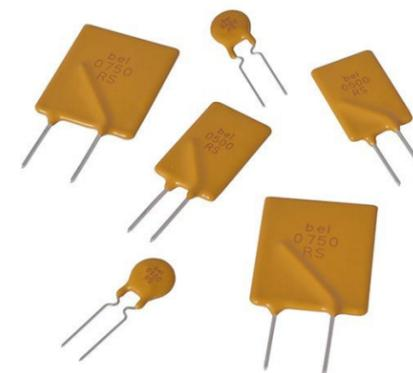

Figure 2: The OZRS radial-leaded PPTCs are rated for 32 volts DC and up to 10A. *Image source: Bel Fuse*
- OZRS radial leaded PPTCs are rated from 500mA to 10A with a maximum voltage of 32 VDC, and typical power ratings from 0.9 to 7.0W (Figure 2). For example, the OZRS0100FF1E has a trip current of 1.9A, a hold current of 1.0A and is rated for 1.4W